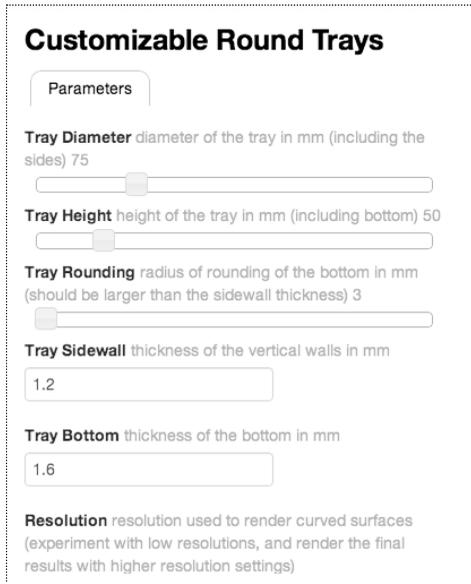

Fig. 13.3
6. In the Parameters tab, we can edit the following parameters [Fig. 13.3]: